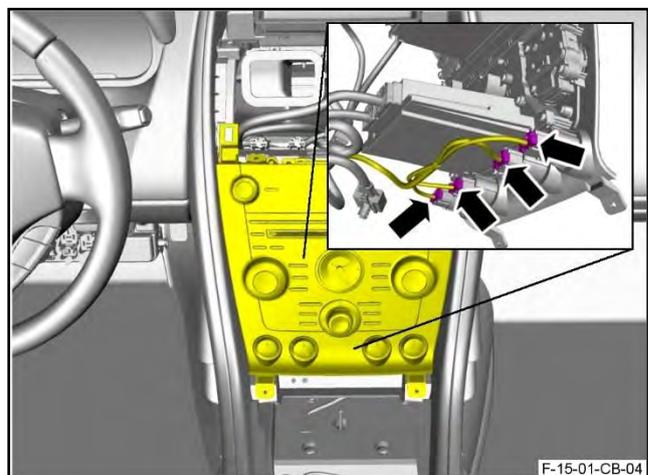

Figure 23
31. Disconnect the four electrical connectors from the control switches (refer to Figure 23).